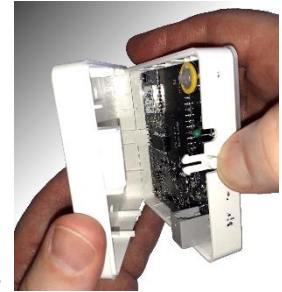

Fig 12
Step 1 Press release button on side of Controller control case and pull the back case away (see Fig 12).
Step 1 Press release button on side of Controller case and pull the back case away (see Fig 12).